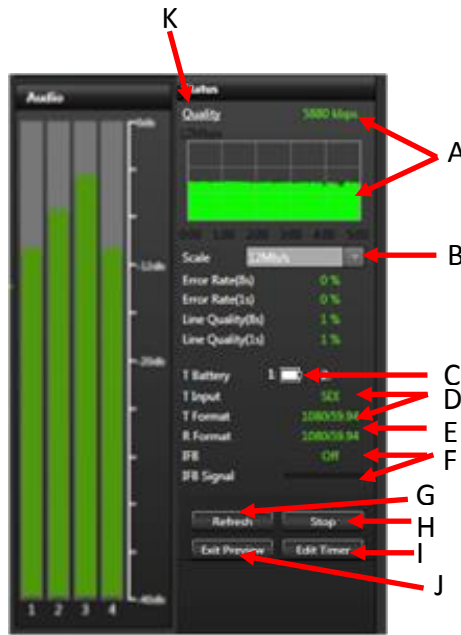

Figure 5 Status Panel
B	Quality Histogram and Post-Live Quality Histogram: Shows the total transmission encoding bit-rate over a period of time as well as gives users access to a post-live quality histogram. See Figure 5 and 9
C	Status panel: Displays error rate, line quality, and battery status. See Figure 5
D	Transceiver Information: Displays the input type and format, the output type and format, IFB status and IFB signal. See Figure 5
E	Audio level light display: The four light displays provide visual monitoring of your audio levels. This displays dBFS audio input level at the receiver. See Figure 5
F	Refresh button: Resets the video stream. See Figure 5
that depicts the total transmission encoding bit-rate over a period of time **(A)** (Figure 5). The histogram's scale can be change by selecting a different display option on the drop down menu **(B)**. The status of the transmitter's batteries **(C)** is also displayed.
Displays input type and input format of the transmitter, which are displayed as T Input and T Format respectively **(D)** (Figure 5). The output format of the transmitter is shown as R Format **(E)**. Lastly, the IFB status and the IFB Signal are displayed **(F)**. The IFB signal has a strength meter that depicts the input level of the IFB. To stop the live transmission, users can press the "Stop" button on the status panel **(H)**.
If the video goes black or pixelates heavily and does not recover automatically within 15 seconds, click the Refresh button **(G)** to reset the video stream and reestablish the connection (Figure 5).
The Quality button (B) allows users to access the post-live histogram (Figure 5). The post live histogram allows users to recall a histogram of the entire past transmission and display it as a Web-based graph to review the overall performance (A) of that transmission over a certain period of time (B) (Figure 9). When the Quality button is selected, users will be directed to a webpage where they can access the post-live histogram.